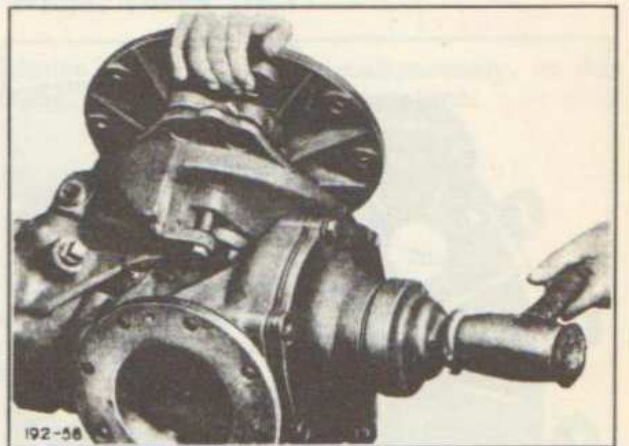

Fig. 56—Placing 2nd Reduction Bevel Gear Sub-assembly in Housing
Start pinion gear (14) and drive shaft (3) into position and hold loosely preferably by two bearing retainer capscrews (1). Then slip oil seal (5) on the drive shaft and tap into position. Install bevel gear (19), shims (17) and parts into housing (54), and tighten with two bearing retainer screws (15), see Figure 56.